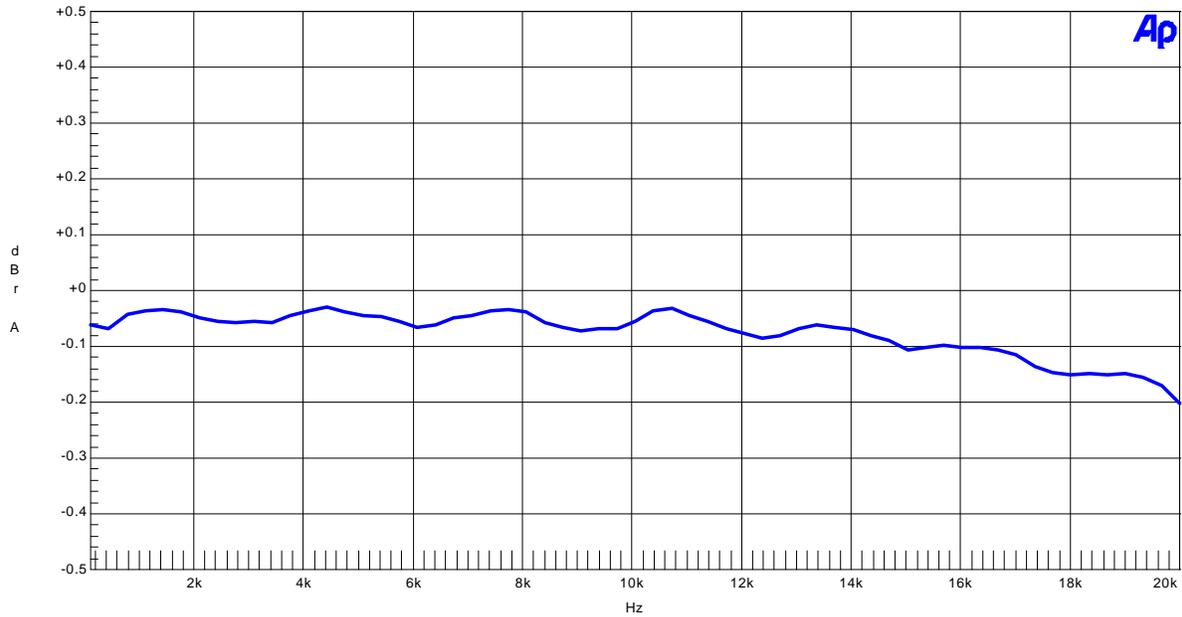

Figure1-8. Frequency Response (Input level=0dBFS)
- Figure 1-8. Frequency Response (Input Level=0dBFS)